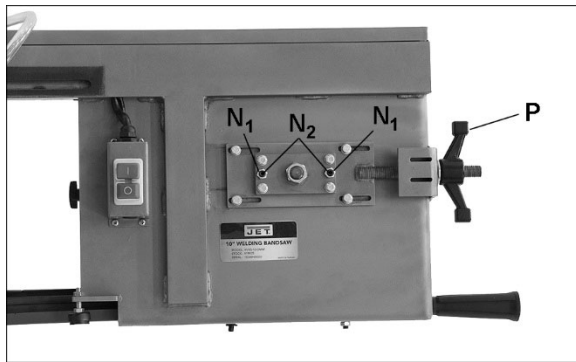

Figure 7-8: blade tension and tracking
5. Release tension on blade by turning tension handle (P, Figure 7-8) counterclockwise. Remove blade. (Use leather gloves when handling sharp blades).
Refer to Figure 7-8.
3. Turn blade tension handle (P, Figure 7-8) clockwise to tighten blade. Pluck the blade with your finger; a tensioned blade will emit a “twang” sound. As experience with the saw is gained, operator may develop a better feel for how tight to set a particular blade.
5. If blade is not tracking properly, loosen either of two hex nuts (N1, Figure 7-8).